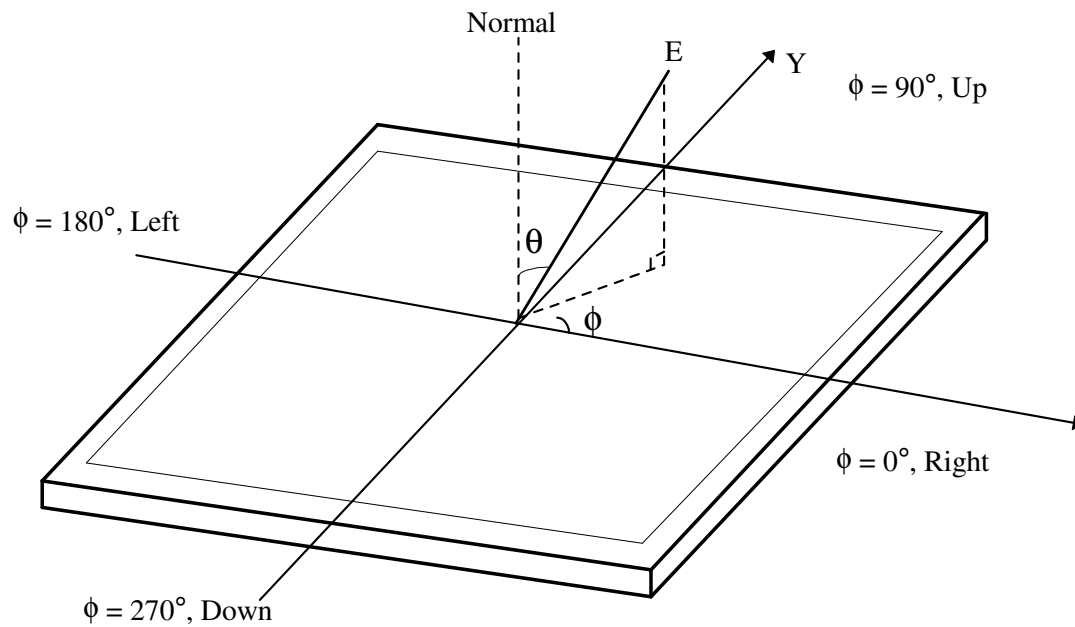

FIG. 4 Viewing Angle
5. Viewing angle is the angle at which the contrast ratio is greater than 10. The angles are determined for the horizontal or x axis and the vertical or y axis with respect to the z axis which is normal to the LCD module surface. For more information, see the FIG. 4